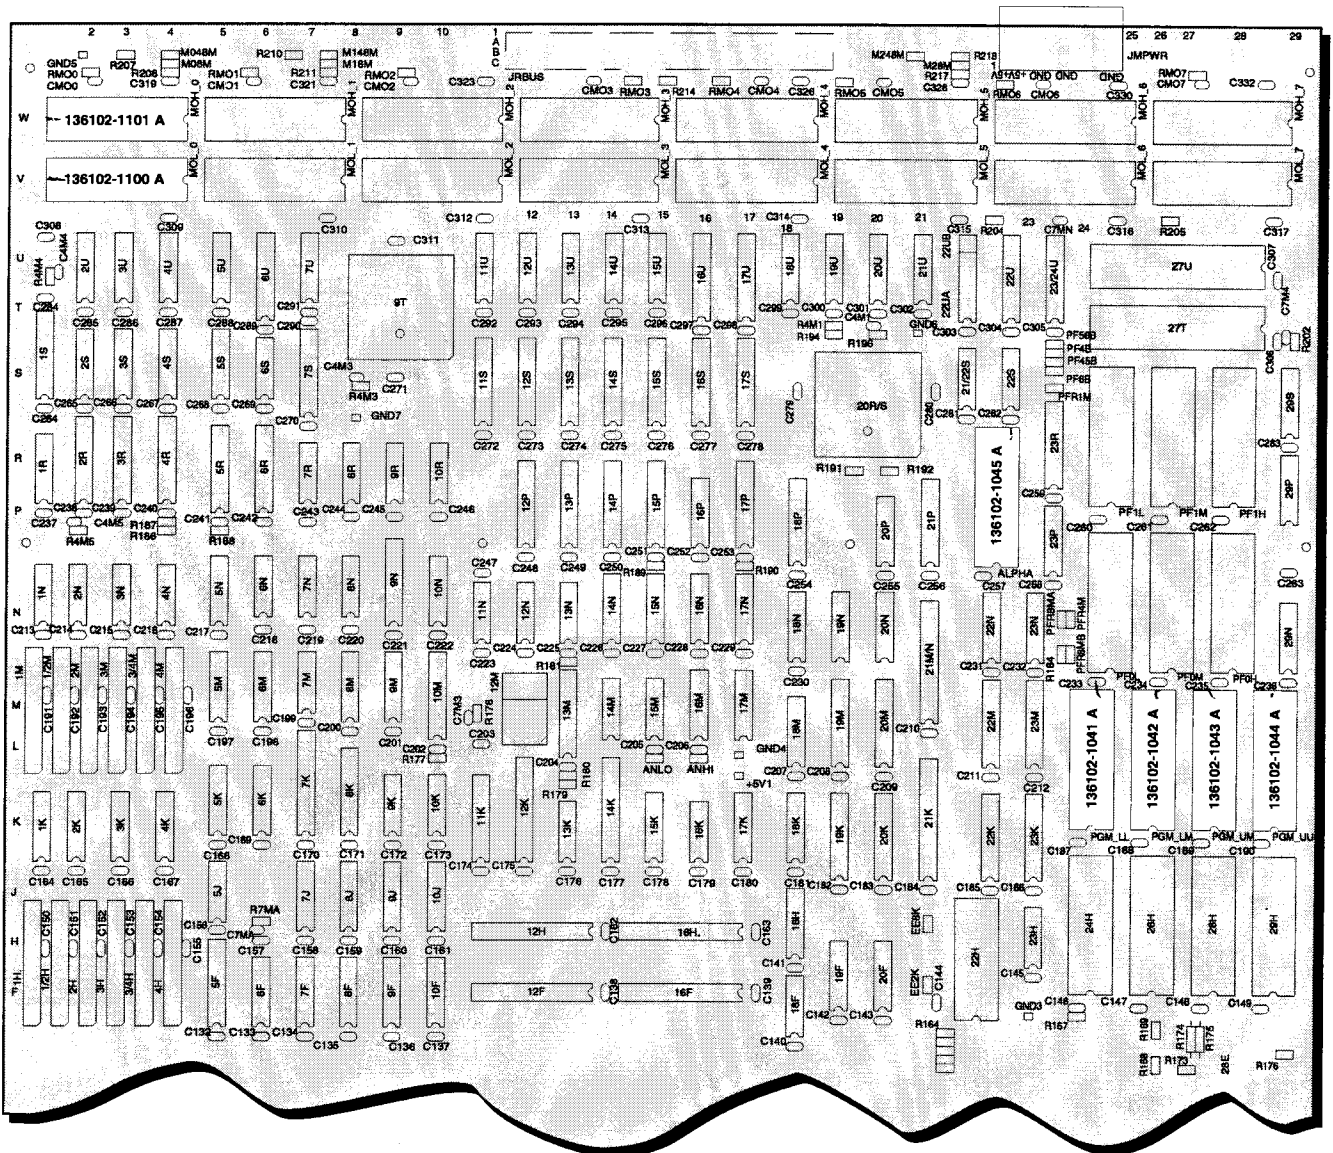

Figure 1 -EPROMs to be Replaced on the Game (GT) Printed-Circuit Board
3. Refer to Figures 1 and 2 of this supplement: each chip to be replaced is colored white. Locate each EPROM to be replaced and remove each with a chip extractor tool (if necessary, you can use a flat-head screwdriver).